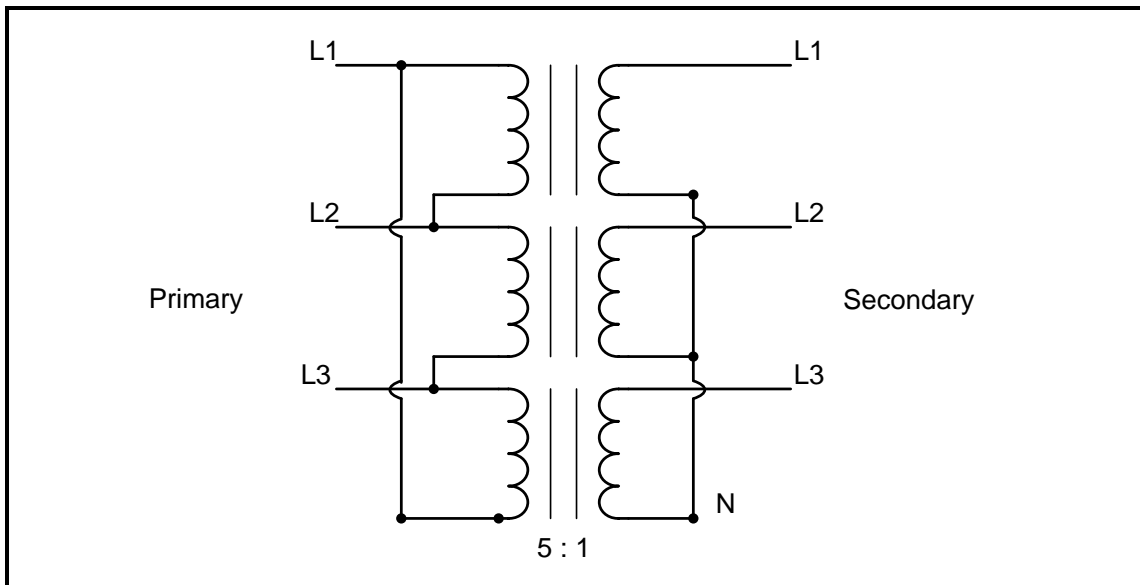

FIGURE 4.4: THREE-PHASE TRANSFORMER
- 4.4 FIGURE 4.4 below is a diagrammatic representation of a three-phase transformer connection. Answer the questions that follow.
- 4.4.1 Identify the type of transformer connection in FIGURE 4.4. (1)
- 4.4.2 Name TWO applications of the transformer in FIGURE 4.4 (2)